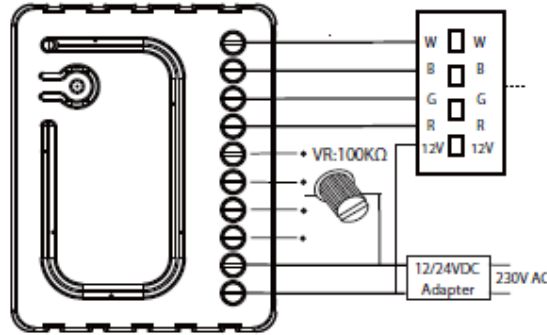
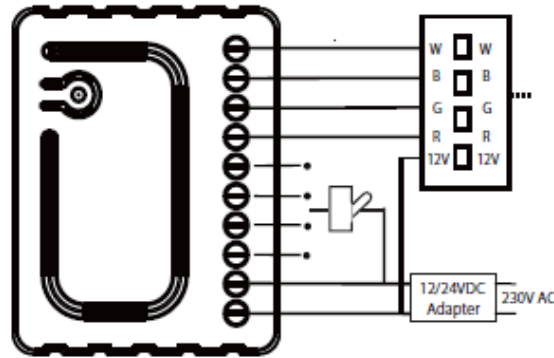
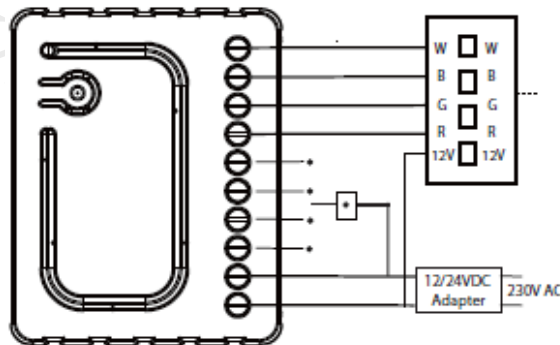

Fig.2 Connecting variable resistor
Fig.3 Connecting toggle switch
Fig.4 Connecting push switch
- 3) Connect the R.G.B.W. Color LED Dimmer according to Fig.2, Fig.3 or Fig.4.